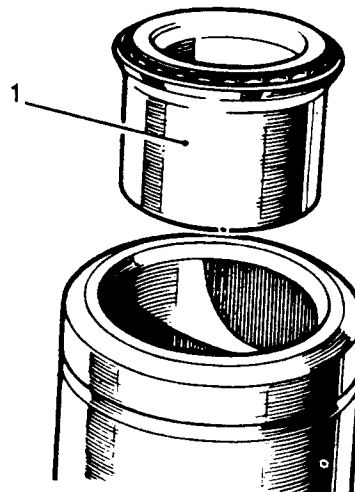

Fig L4.2
- (9) Refer to Fig L4.2. Remove the column top bearing (1).